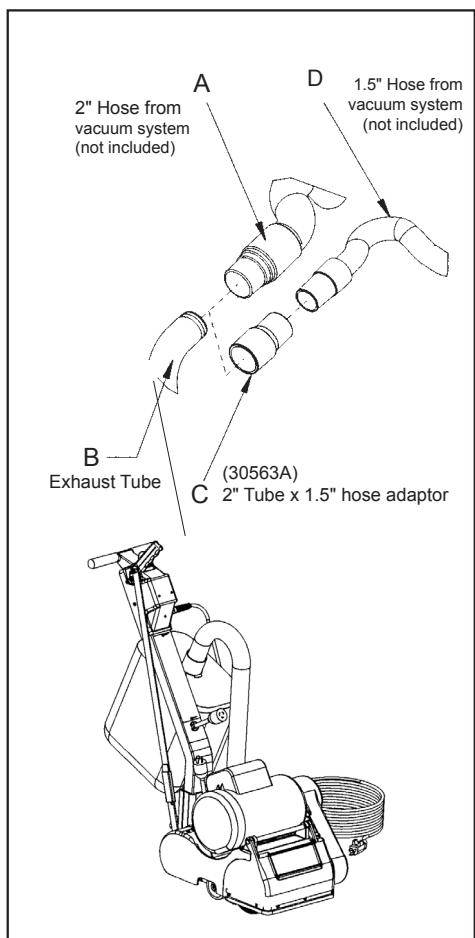

Figure 1
2. Insert 1 ½" hose end (figure 1, D) into the adaptor (figure 1, C).